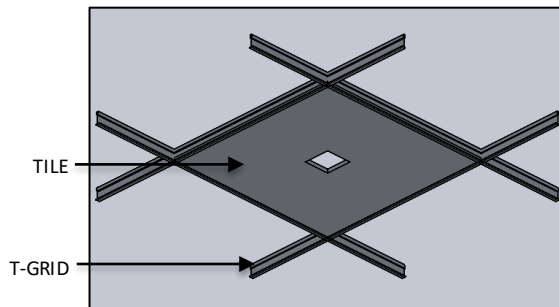

FIG. 17-TILE INSTALLATION
12. Cut a 3.375" high and 3.625" Wide Hole into the CEILING TILE and insert the TILE into the desired location as shown below in FIG. 17.